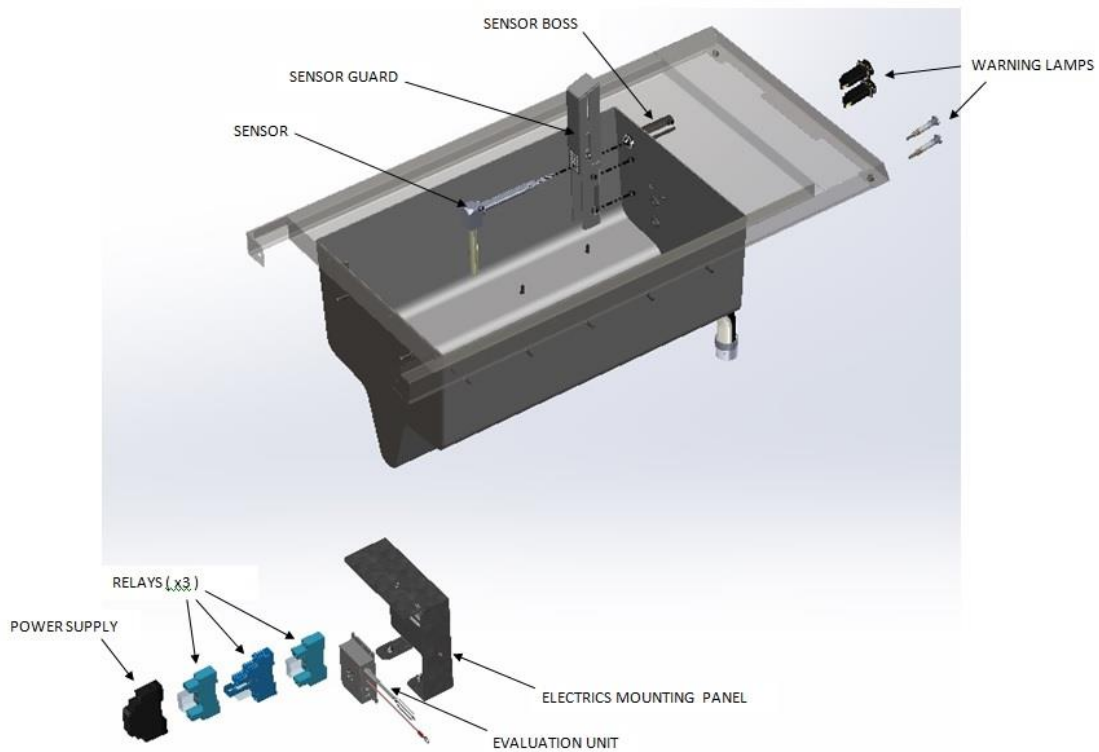

Figure 5 – Oil level sensor circuit components
3.16 OIL LEVEL SENSOR (G3840X/G3840FX only, Figure 5)
3.17 TOP UP AND LOW OIL LEVEL LEDS (G3840X/G3840FX only, Figure 5)
3.18 OIL LEVEL SENSOR EVALUATION UNIT (G3840X/G3840FX only, Figure 5)
3.19 RELAYS & RELAY BASES (G3840X/G3840FX only, Figure 5)
3.20 POWER SUPPLY UNIT (G3840X/G3840FX only, Figure 5)